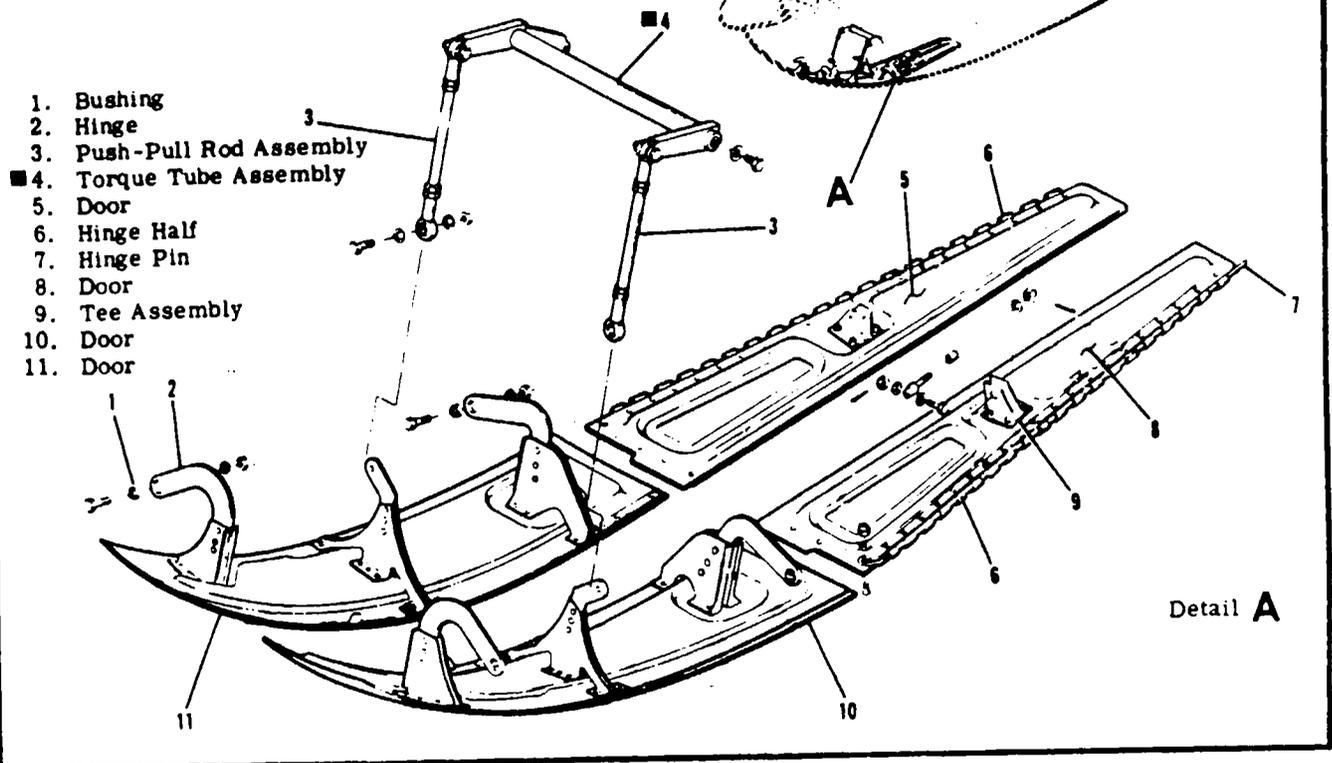

Figure 5-22. Nose Gear Door System
5-125. NOSE GEAR DOOR SYSTEM. (Refer to figure 5-22.)
5-128. REMOVAL AND INSTALLATION OF NOSE WHEEL DOORS. (Refer to figure 5-22.)
5-129. REMOVAL AND INSTALLATION OF NOSE WHEEL DOOR MECHANISM. (Refer to figure 5-22.)
5-130. REMOVAL AND INSTALLATION OF NOSE GEAR STRUT DOORS. (Refer to figure 5-22.)
e. Observe note in figure 5-22.